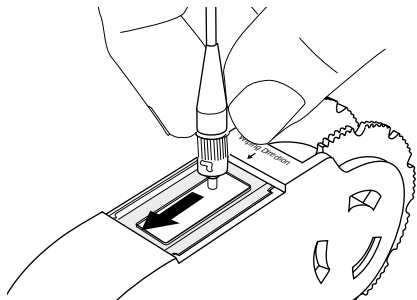

Figure 3
- c) Using light pressure, slide the connector end-face in the direction of the arrow on the cassette (Figure 3).
- c) Using light pressure, slide the connector end-face in the direction of the arrow on the cassette (Figure 3). Make two additional passes on unused areas of the cleaning tape.